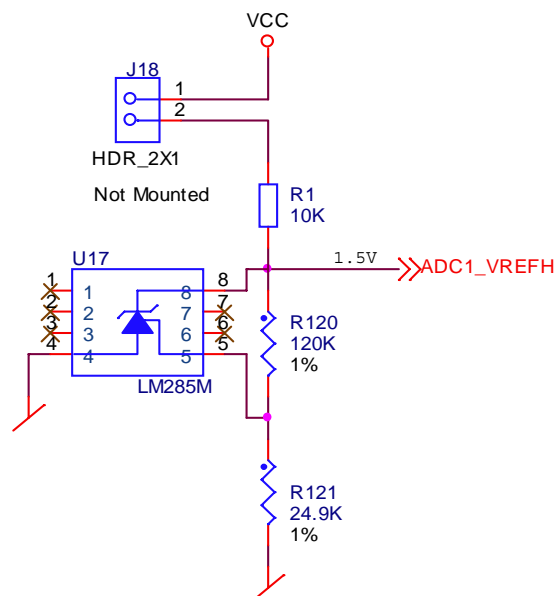

Figure 4-6. ADC Voltage 1.5 Vdc Voltage Reference
- A fixed voltage reference for ADC1_VREFH is provided (see Figure 4-6).